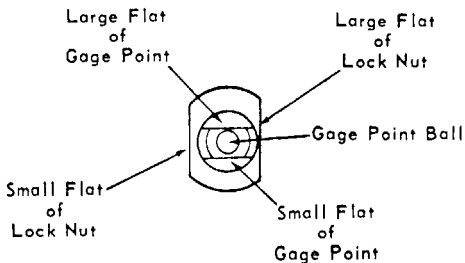

FIGURE 4
3. Now examine the Gage Point and Lock Nut Assembly. Note that the flats on both the Lock Nut and the end of the Gage Point are milled off center, making one flat larger than the other (see Figure 4).